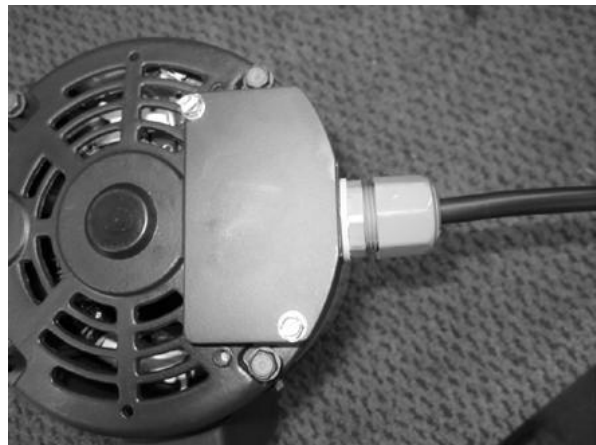

Figure 9.
8. Final Power Cord to Motor Assembly (Figure 9.)
Thread the strain relief nut over the fitting and tighten. Carefully coil wires and tuck into junction cavity and rotate junction cover plate back into place as shown in Figure 9. Tighten screws.